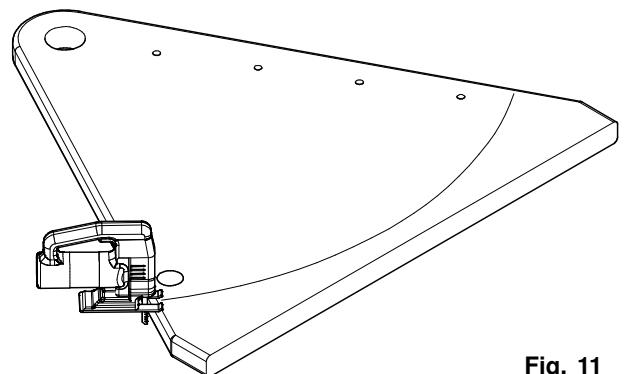

Fig. 11
- Cut the step by following the marks obtained previously by means of an alternative electric saw or any other cutting tool. (Fig.11)